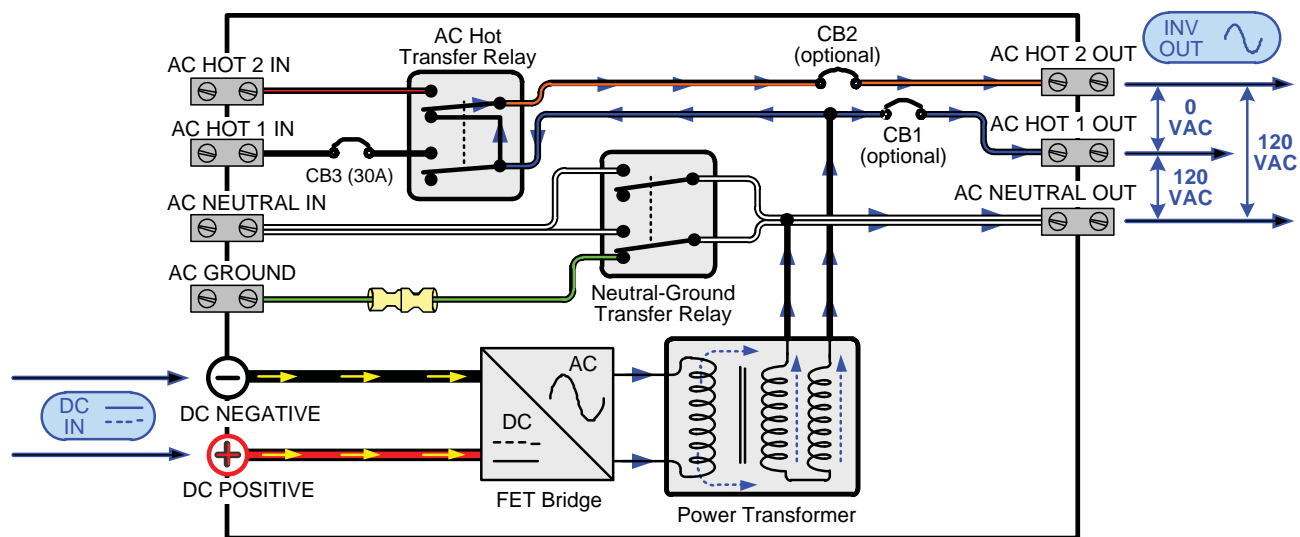

Figure 3-1, Power Flow - Inverter Mode
**Inverting** – When a load greater than 5 watts is connected to the inverter output, the MS Series inverts the DC power from the battery and supplies 120 VAC power to your sub-panel. The inverter's green LED flashes once every 2 seconds (medium flash) to indicate it is inverting. The amount of time the inverter can be inverting and providing power is directly related to the amount of AC loads that are connected, and the capacity of the battery bank. Refer to Figure 3-1 to see the flow of power from the DC input to the AC output while in the Inverter mode.